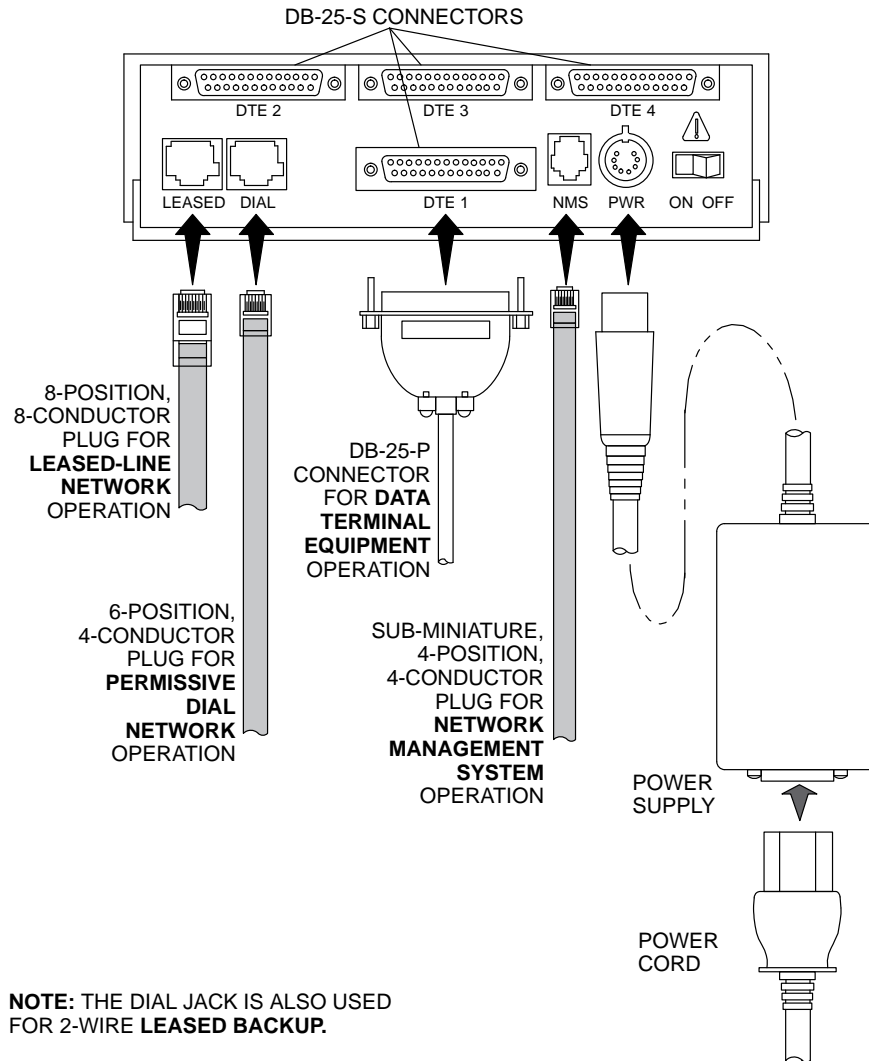

Figure 2-1. Model 3920Plus Multiport Back Panel and Power Supply
The back panel of the Model 3920*Plus* modem (Figure 2-1) has the following switches and connectors:
Instructions for connecting cables to the TELCO jack types using the appropriate cables apply to both singleport and multiport Model 3920*Plus* modems. Figure 2-1 illustrates the Model 3920*Plus* multiport modem. For pin assignments, refer to Appendix C.
2. Connect the DB-25-P (plug) connector on the cable to a DB-25-S (socket) connector (Figure 2-1) on the modem's back panel, labeled DTE 1—DTE 4. Use a small screwdriver to secure the cable to the modem.
2. Insert the power supply's 8-pin DIN connector into the modem's back panel dc power receptacle, labeled PWR (Figure 2-1).
1. Insert the 8-position, 8-conductor modular plug into the jack labeled LEASED (Figure 2-1).
1. Insert the 8-position, 8-conductor modular plug into the jack labeled DIAL (Figure 2-1).
1. Insert the 6-position, 4-conductor modular plug into the jack labeled DIAL (Figure 2-1).
1. Insert the sub-miniature, 4-conductor modular plug of the 3600 Hubbing Device into the jack labeled NMS (Figure 2-1). Refer to Document Number, 3610-A2-GZ45, *3600 Hubbing Device, Feature Number 3600-F3-300, Installation Instructions*, for a description of the 3600 Hubbing Device. Installation for the 3920Plus is the same as for the 3610 DSU.